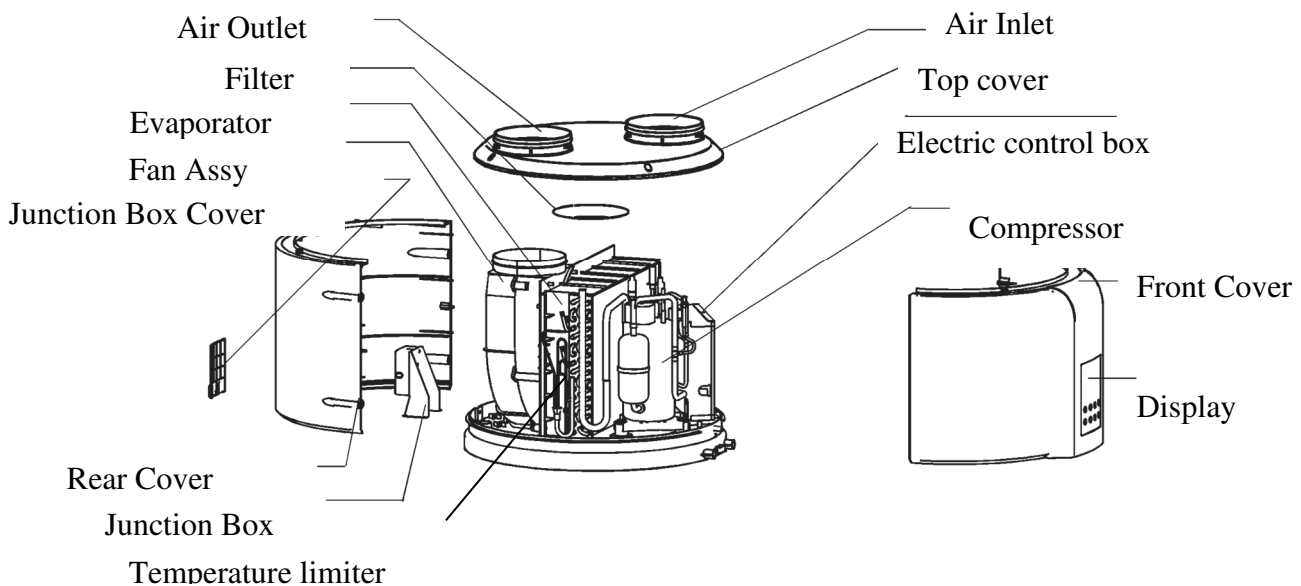

Figure 2.7.-1.
HB200(C) heat pump water heater is basically composed of an upper part (**Figure 2.7.-1.**) containing heat pump equipment and a lower part (**Figure 2.7.-2.**) containing the storage tank. The storage tank of the sanitary hot water- having a volume of – is covered by an enamel coating internally and by a thick polyurethane insulation layer having large efficiency externally, and the latter is covered by plastic surface of the appliance. The pipe radiator, controlling indicator anode electrics and magnesium indicator anode located on the closing cover are placed on a horizontal axle common with the closing cover.
The following parts are placed under an easily accessible and adequately insulated plastic coverage: compressor, thermostatic expansion valve, evaporator, fan ensuring adequate air flow and all the other parts displayed on **Figure 2.7.-1.**